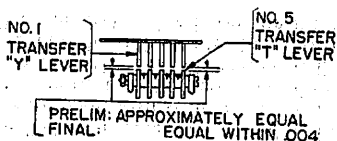

Fig. 59
**2.123 Transfer Bail and Slide Assembly:** (Preliminary Adjustment.) (Final 2.125.) Rotate the sensing-shaft to its stop position and mount the transfer bail and slide assembly (previously removed) on the base casting. Position the assembly so that the "T" levers line up centrally with the "Y" levers and that there is approximately equal distance between the "T" and "Y" levers on the No. 1 and No. 5 sets of levers. **Fig. 59**
- (1) To adjust, add or remove shims equally under the three legs of the transfer-bail assembly bracket.
- (b) With the sensing shaft in its stop position, there should be equal clearance, within .004" between the ends of the "T" and "Y" levers when measured between the top prongs of the No. 1 and No. 5 sets of levers. Fig. 59
(1) To adjust, loosen the transfer-bail bracket mounting screws and position the bracket. Tighten the screws.